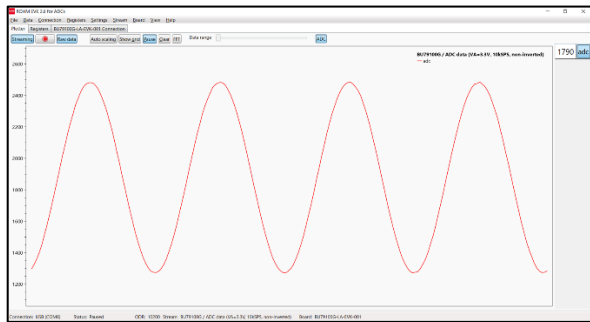

Figure 4. Example of the ADC Windows GUI window
4. If the settings are adjusted properly, data streaming should start automatically*3, and the on-screen output should display real time output for BU79100G-LA.(Figure 4)